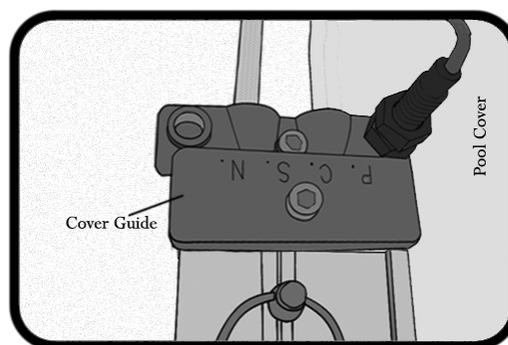

Fig. 1
**Step 1:** With the Pool Cover in the fully "Open" position, determine which side of the pool has a damaged Slider. Move to that side of the pool, near the Pool Cover Mechanism, and locate the Cover Guide. **(Fig. 1)** NOTE: The Cover Guide is a small steel or plastic component that is pressed into the Track End. The guide shown in Fig. 1 is one example of a PCS Cover Guide. Guides may vary depending upon pool and cover type. These instructions can be followed for all pool and cover types.